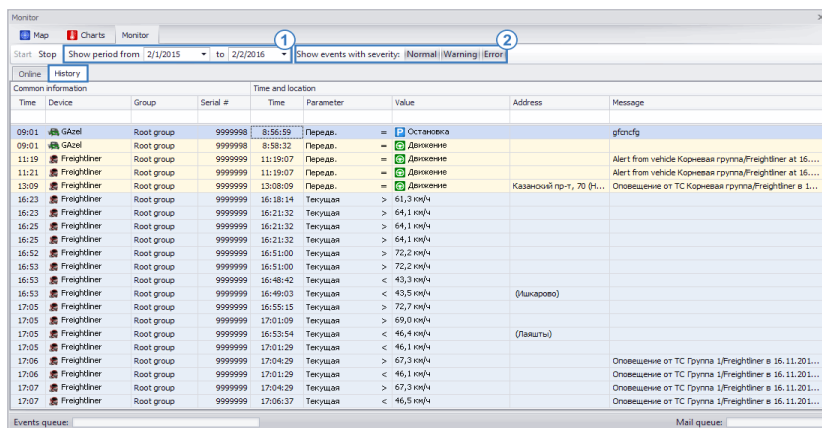

Fig. 173. The "History" tab.
The whole log is displayed on the "History" tab (Fig. 173). On this tab the user may set the time span (the "Show period from...to" setting) the events in which are to be shown (Fig. 173, item 1). Also, using the "Show events with severity" setting, the user may show or hide specific event types (Fig. 173, item 2).
Downloading photos is carried out using Online devices provider on the additional panel “Photo loader”. The additional panel may be hidden. To show the additional panel of the Online devices provider, select Menu bar > Window Menu > Photo loader (Fig. 173).